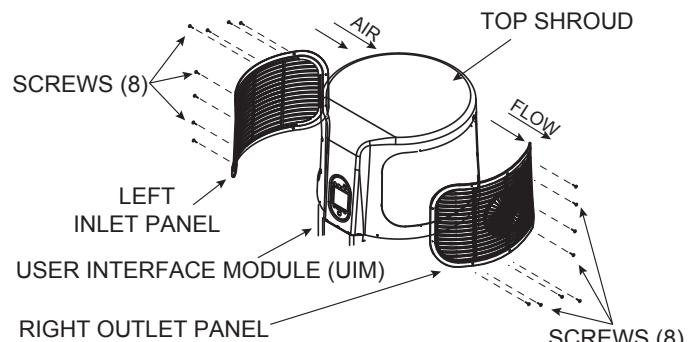

Figure 3.
- Remove the screws from the right louvered access panel and remove the panel. See Figure 3.